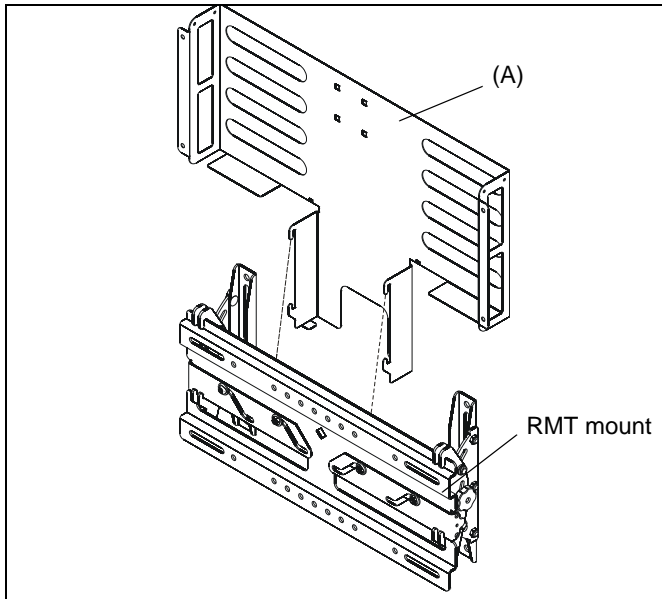

Figure 1
2. Hang CPU adapter (A) onto upper RMT bracket using the upper hooks on the adapter. (See Figure 1)